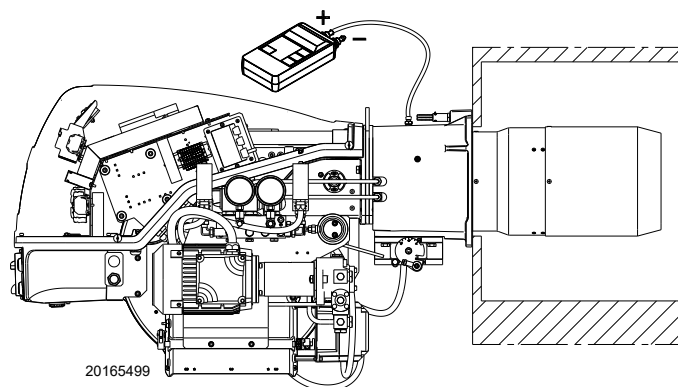

Fig. 47
- Adjust the high gas pressure switch to the upper limit of the scale (Fig. 47).
- Fit a U-type manometer (Fig. 47) to the gas pressure test point on the sleeve. The manometer readings are used to calculate MAX. burner power using the diagrams on page 30.